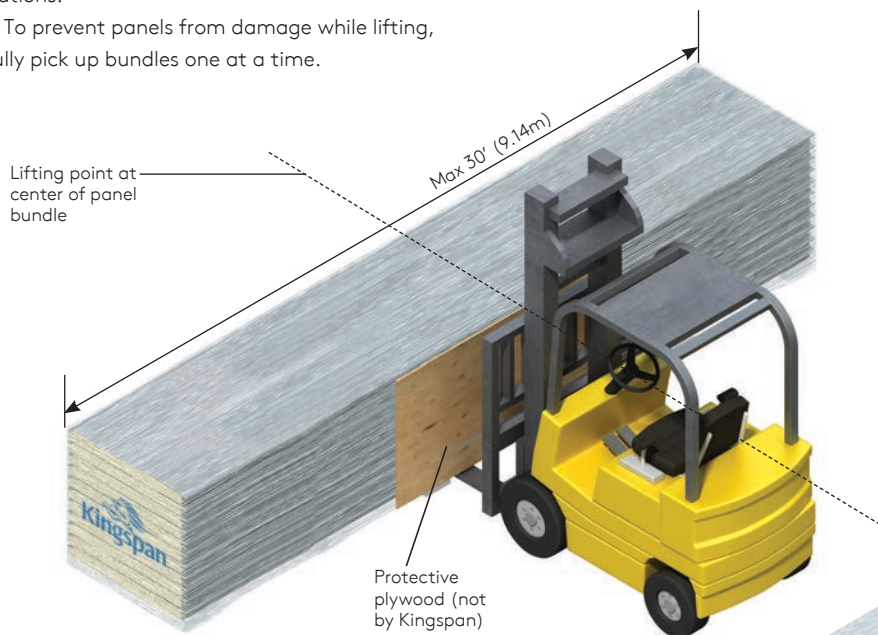

Fig. 4.1a
4.1.1 The recommended loading / unloading method for bundles less than or equal to 30' is to use a single forklift with widely spaced forks placed under the center of the bundle as shown in Figure 4.1a. Panel bundles over 30' in length may be moved by using two forklifts spaced equally along the length of the bundle as shown in Figure 4.1b. Inspect travel route to assure a reasonable level and compacted surface free of ruts and excavations.